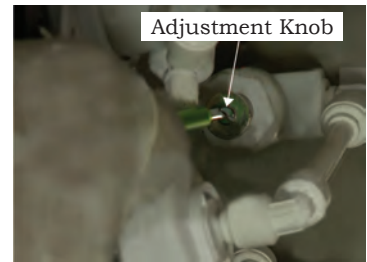

Fig. 4.108
3. To increase the TDS level of the purified water, slightly turn the adjustment knob in anti-clockwise direction and to decrease the TDS level of the purified water, slightly turn the adjustment knob in clockwise direction (Fig. 4.108).